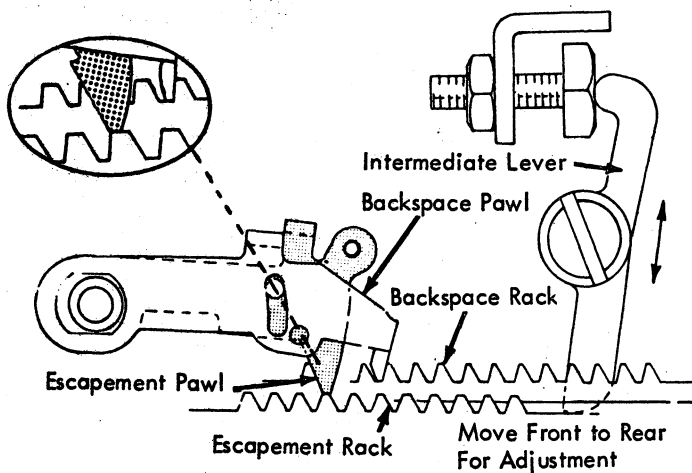

FIGURE 201. Intermediate Lever Adjustment (Late Level)
4. **Intermediate Lever (Late Style)** - Identify by presence of C-5 auxiliary cam follower - With the backspace cam manually operated to the high point, the escapement pawl should just fail to drop into the preceding rack tooth causing the manual backspace operation to fail. Adjust the intermediate lever pivot screw forward or back in its elongated mounting hole to obtain this condition (Fig. 201).